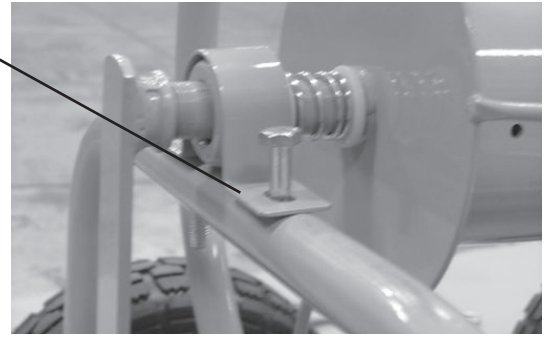

Figure 5
- Place the Spool (B) on the Frame (A) so the bushings are oriented over the holes on the frame as seen in figure 5. You may have to compress the spring to get the spool oriented properly.
- Insert the 1.75" bolts thru the bushings and thru the holes in the frame as seen in figure 5.